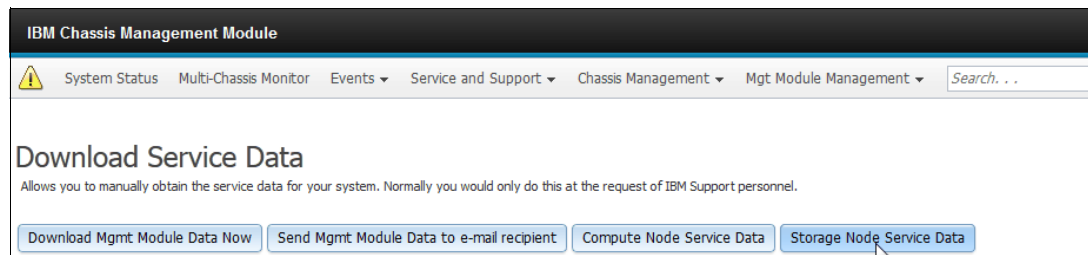

Figure 3-35 CMM - Download Service Data from Storage Node
- The *Download Service Data* page gives four options. We pick the *Storage Node Service Data* as shown in Figure 3-35.